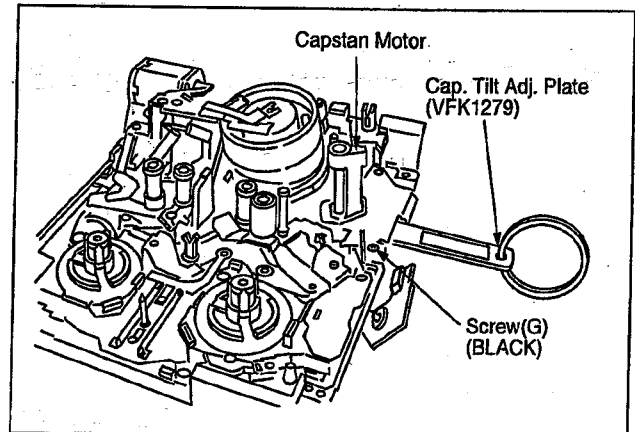

Fig. A14
1. Loosen the adjustment screw (G) and set the Cap. Tilt Adj. Plate (VFK1279) between Capstan Motor and Mechanism Chassis.
2. Turn the adjustment screw (G) to clockwise direction slowly until the Capstan Motor just touch to the Cap. Tilt Adj. Plate as shown in Fig. A14.